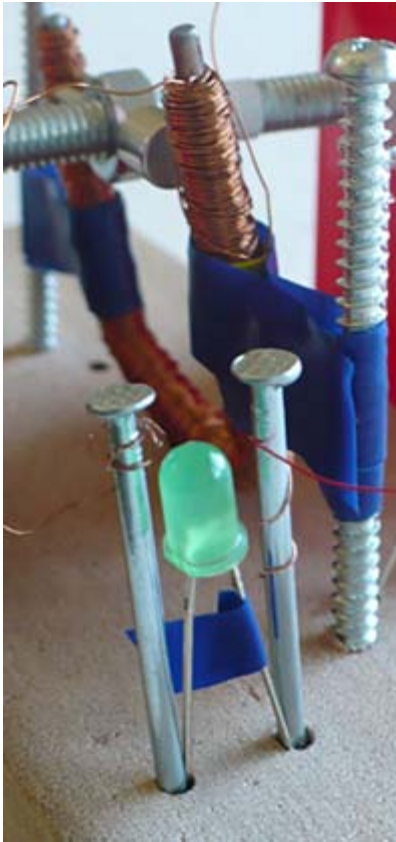

Figure 15. Electrical connections between the coil leads and an LED are created using two nails.
- c. Place the two legs of an LED light in the pair of pre-drilled holes next to one of the screws holding the coil, as shown in Figure 15. Place the nails in the same holes, making sure each nail touches one leg of the LED to create electrical connections.